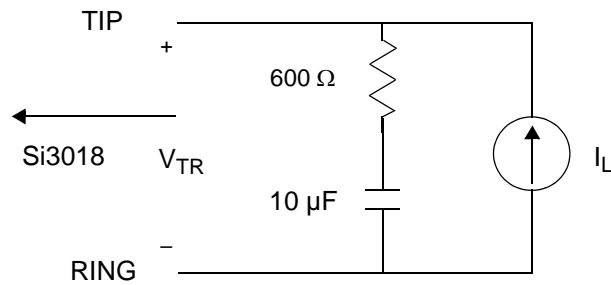

Figure 1. Test Circuit for Loop Characteristics
1. Measured at TIP and RING with 600 Ω termination at 1 kHz, as shown in Figure 1 on page 5.